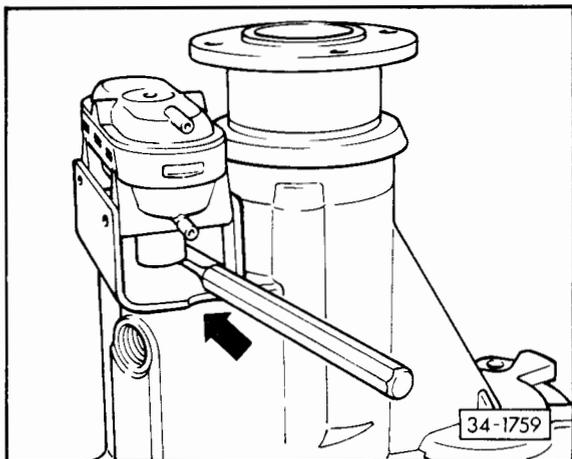
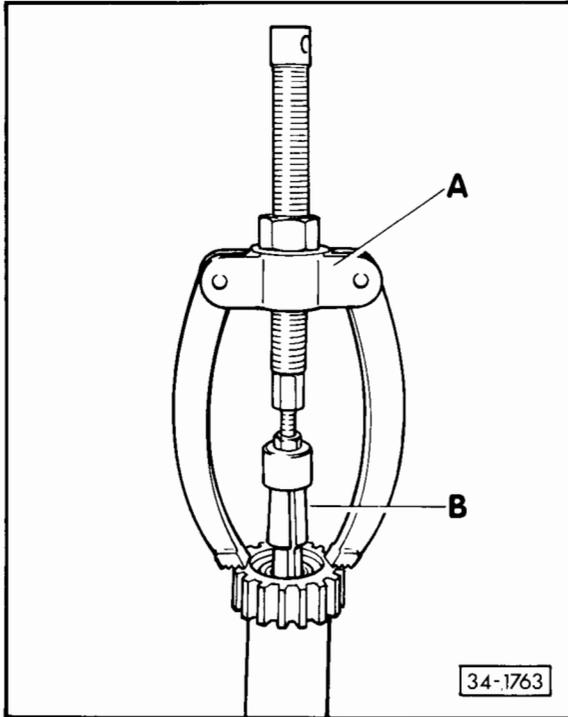

Fig. 1 Removing shift element
Fig. 5 Removing needle bearing
- Removing – Fig. 1
- 11 Hexagon head bolt (2)**
- 12 Hexagon head bolt (2)**
- 13 Oil seal (2)**
- 14 Switch for warning lamp (2)**
- 15 Oil seal (2)**
- 16 Input shaft (1)**
- 17 Circlip (1)**
- 18 Connecting sleeve (1)**
- 20 Needle bearing (2)**
- Removing – Fig. 5